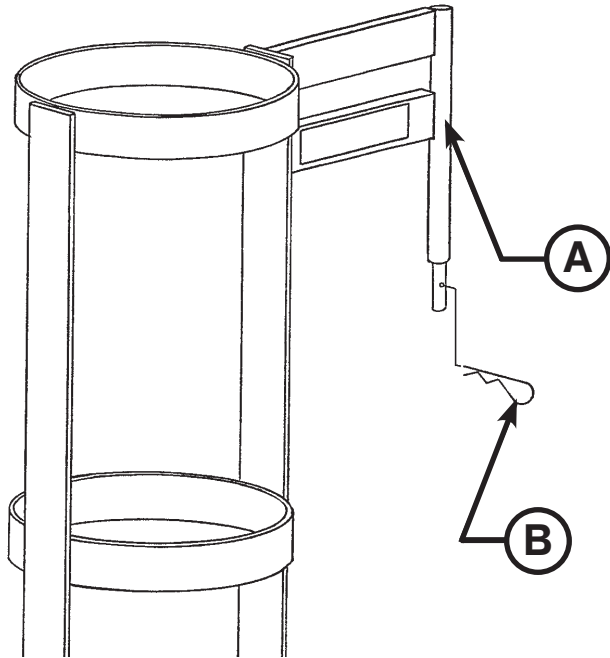

Figure 51: Upright Oxygen Bottle Holder
To install the upright oxygen bottle holder, insert the support bar (A) into the I.V. socket at any of the four litter corners. Insert the cotter pin (B) through the hole in the support bar to hold the bottle holder in place as shown in Figure 51.